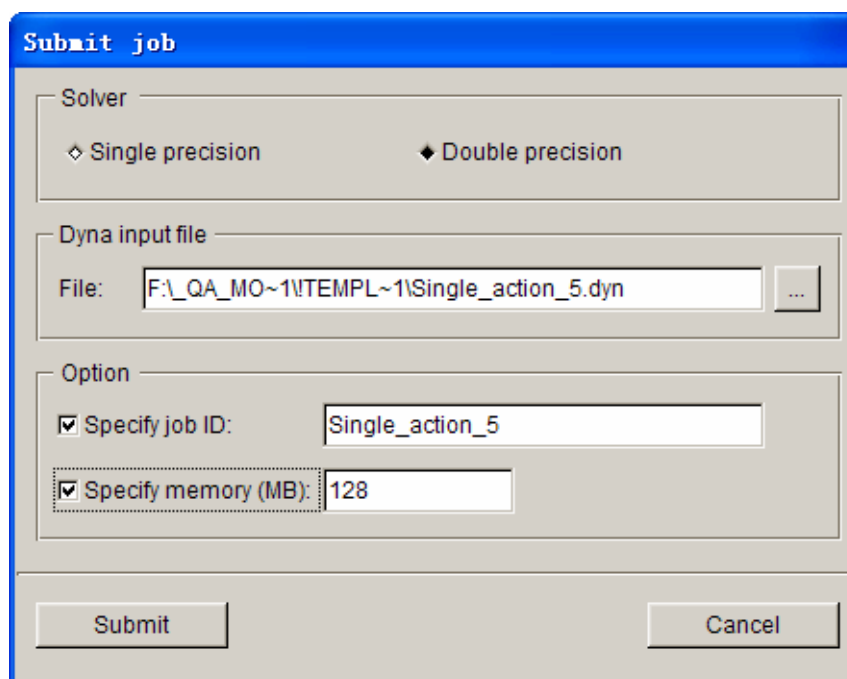

Figure 8.2.11 Submit Job dialog box
**JOB SUBMITTER** — This function allows the user to submit the current DYNA job to the JOB SUBMITTER. Then, he/she may manage the DYNA jobs through the JOB SUBMITTER. Submit job dialog box is shown in Figure 8.2.11.